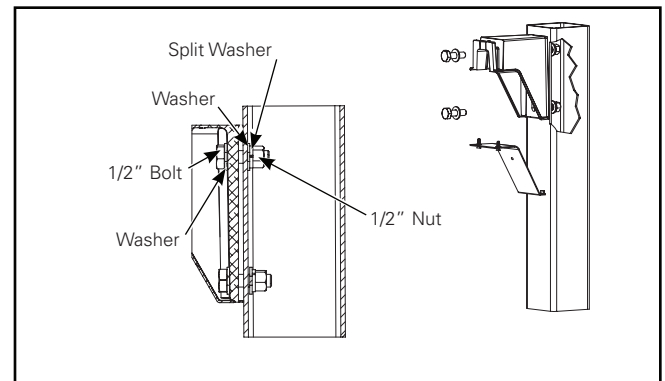

Figure 11.
- Using provided $\frac{1}{2}$ " hardware, secure the pole mount arm to pole. Torque bolts to 40 ft-lbs. (Figure 11.)